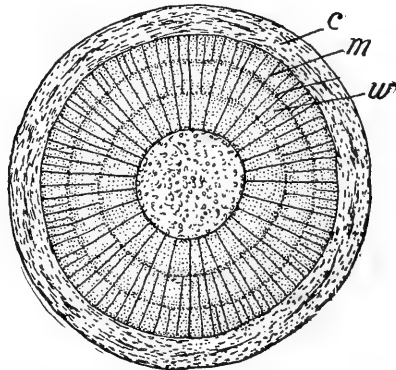

Fig. 61. Cross section of a twig three years old. (Andrew's Botany.)
- e. Study Fig. 61—shows stem three years old.